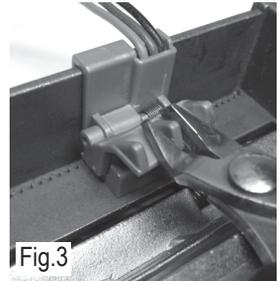

Fig.3
- Step 6: Test the door to ensure that the latch depresses the LM lever. If the latch doesn't depress the LM lever, the ribs must be trimmed with side cutters (Fig. 3).